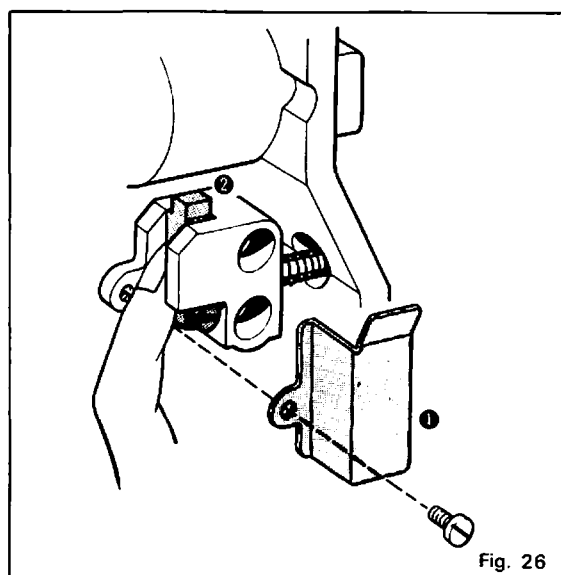

Fig. 26
Then, remove needle plate, and at the needle's lowest position, push stopper ❷ with your finger as per Fig. 26.